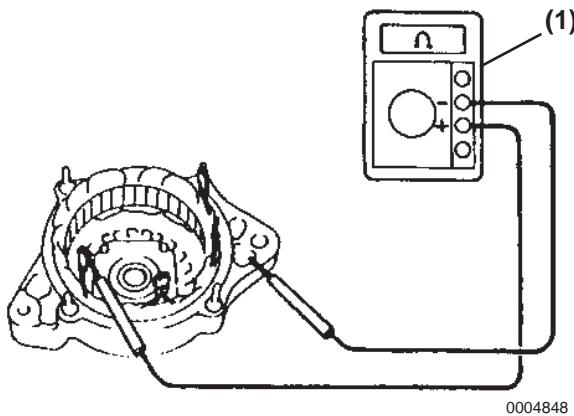

Figure 11-23
2. Using an ohmmeter (**Figure 11-23, (1)**) check the stator for shorts to ground. The stator circuit when measured between the coil leads and drive end frame should have no continuity. If continuity is measured, replace the drive end frame assembly.